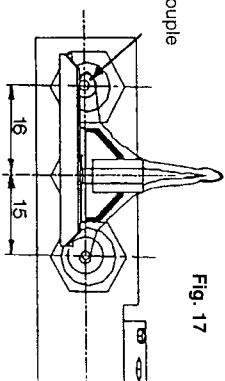
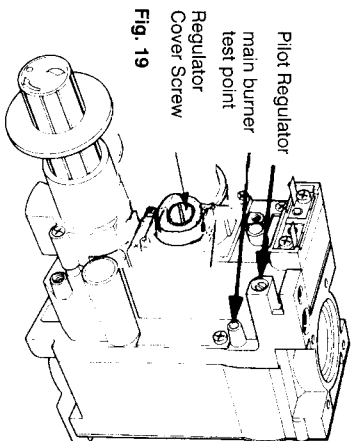

Fig. 17
Fig. 19
- 6.5.5** The pilot flame should remain alight and envelope the thermocouple (see Fig. 17). If it goes out, wait 3 minutes and repeat from 6.5.4
- 6.5.7** Refer to fig. 17 and check that the pilot flame is correct. If it is necessary to adjust the flame refer to cl. 5.7.2 for access instructions. Fig. 19 shows the location of the adjustment screw. Turning clockwise decreases flame and vice versa.
- 6.7.3** Locate the main burner pressure test point (Fig 19) and slacken the screw half a turn in an anti clockwise direction. Attach a suitable pressure gauge. Turn on the boiler for central heating.
- 6.7.4** The pressure reading for maximum output should be: 10.6 mbar/4.26in wg (plus or minus 1.0mbar/0.42in wg). If the pressure is wrong or if it is required lower, it should be adjusted by removing regulator cover screw (fig 19) and adjust regulating screw underneath. Once this pressure has been fixed it should be indelibly recorded on the data badge. This is to ensure that the burner can be reset when any service operation involves alteration of burner settings.
8.5.2 Remove roomsealed front cover plate by releasing six screws (fig 19) and easing cover off. The screws are not captive. Inspect gasket for damage. If damaged, replace.